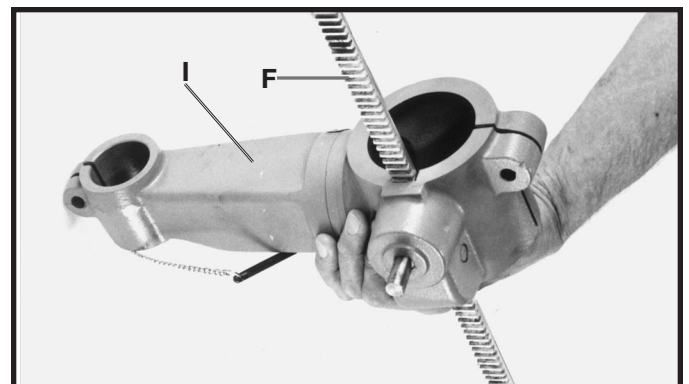

Fig. 6
3. Insert raising rack (F) Fig. 6, which was removed in **STEP 1**, into groove in table bracket (I) making sure teeth of internal gear, located inside table bracket, are engaged with teeth of raising rack (F).